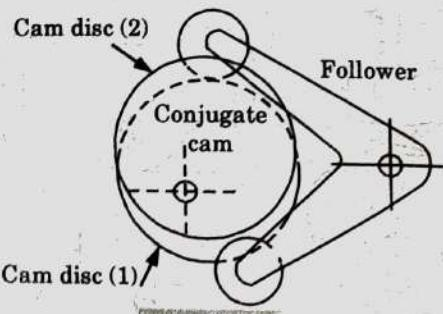

Fig. 5.14.3.
1. A conjugate cam is a double-disc cam, the two discs being keyed together and are in constant touch with the two rollers of a follower (Fig. 5.14.3). Thus, the follower has positive constraint.